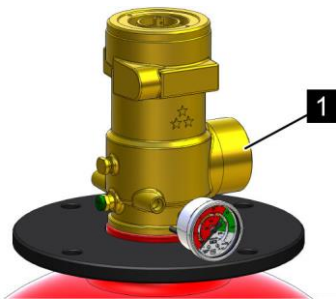

Fig. 61: Valve outlet
5. ➔ Remove the anti-recoil cap on the valve outlet (Fig. 61/1) and keep it in a safe place for return transport of the extinguishing agent container.